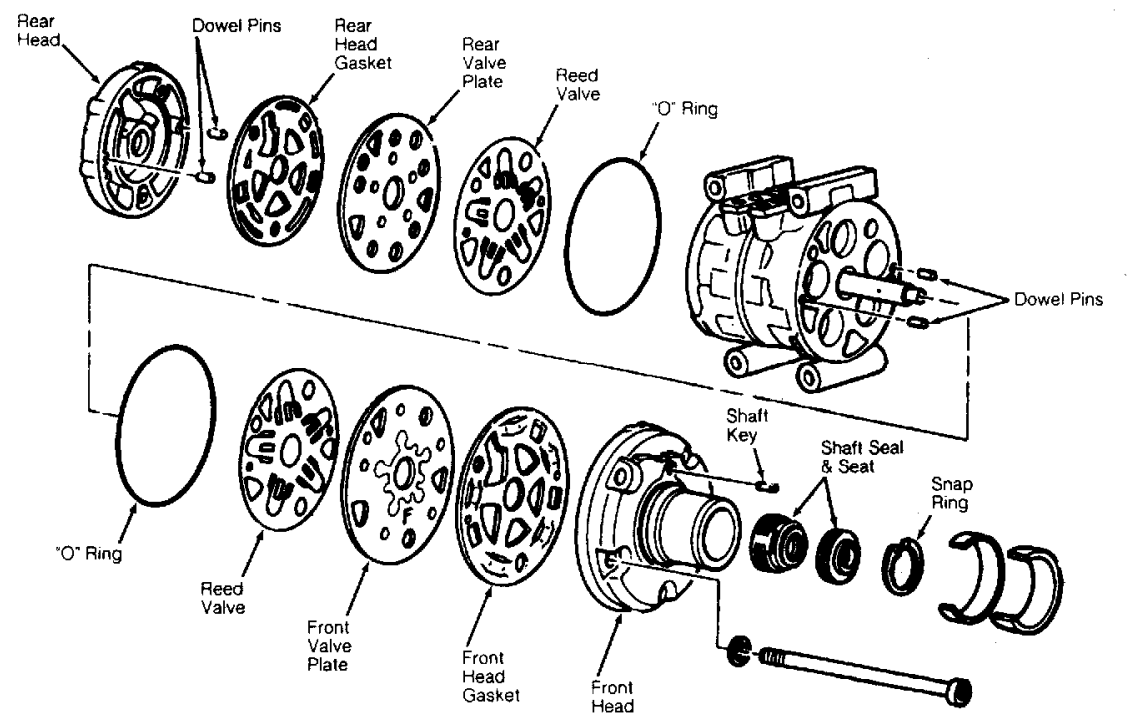

Fig. 3: View of 10P13, 10P15 & 10P15F 10-Cyl Compressor
2. Pull clutch plate from compressor using Clutch Plate Remover (T80L-19703-B). Remove clutch plate shims. Clean compressor area around seal. Remove felt packing and dust seal retainer from nose of front cover. See Fig. 3.
3. Clean compressor front hub area. Remove felt packing and dust seal retainer from inside compressor nose. See Fig. 3. Using Shaft Key Remover (T81P-19623-NH), remove key from shaft.